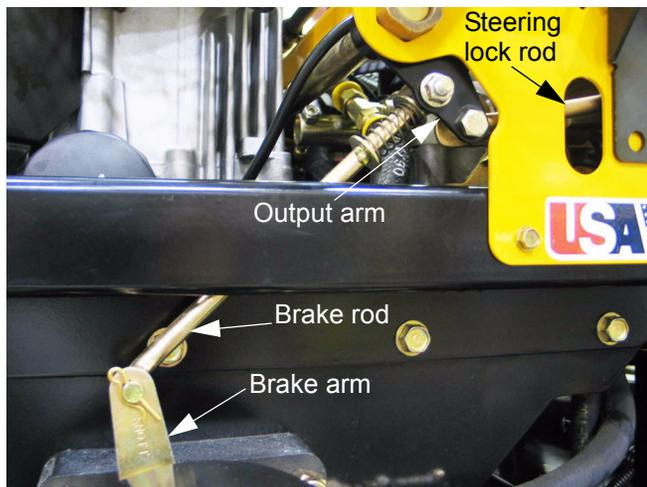

Figure 21.6
21.6. Before making adjustments, make a visual inspection of the brake linkage. Watch the linkage as it is being operated, and check for: See Figure 21.6.